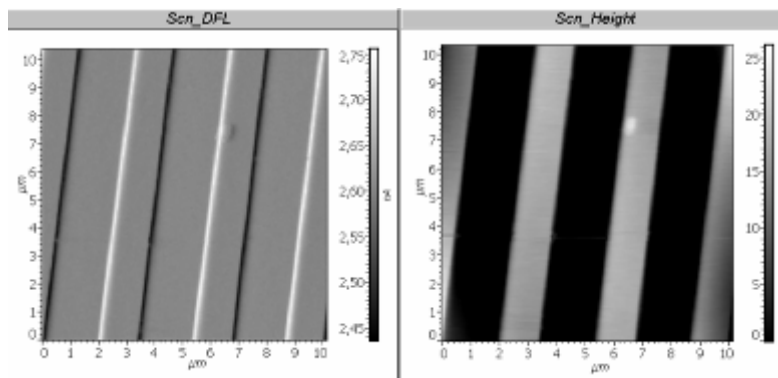

Fig. 3-61
3. **During the sample scanning** two images should be present in “SPM images field” (Fig. 3-61): **DFL** signal image on the left and the topography image (obtained using **Constant Force Mode**) on the right.
Below (Fig. 3-61) is the exemplary image of “DFL” signal (**Error Signal**) and the image of topography (**Constant Force Mode**), obtained simultaneously during scanning of one and the same area of sample surface (a standard rectangular TGZ-1 grid, the increment of 3mcm with the step height of 19nm).